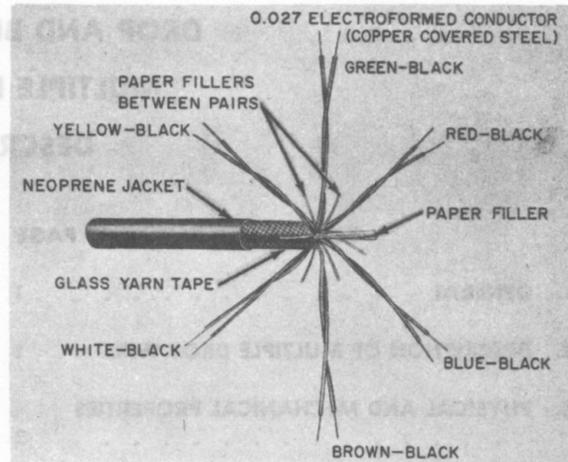

Fig. 3—C Multiple Drop Wire (Early Design) (MD)
2.06 Makeup of this wire is shown in Fig. 3.